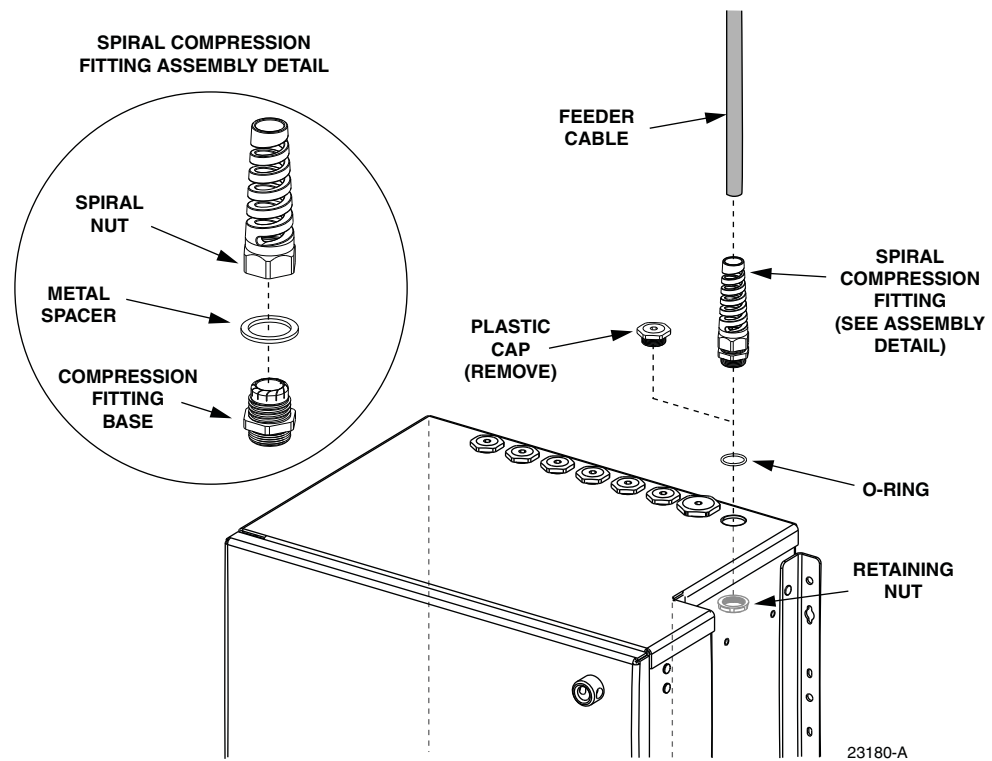

Figure 17. Plastic Cap Removal and Compression Fitting Installation
3. Remove the plastic cap and retaining nut from the feeder cable entry/exit hole as shown in Figure 17. Save the retaining nut for reuse.
4. Locate the spiral compression fitting that is shipped with the cabinet and loosely assemble the fitting components (see Figure 17).